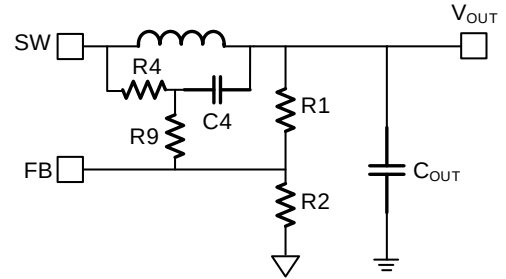

Figure 11: Simplified Circuit with External Ramp Compensation
V_{OUT} is influenced by the resistor divider ($R1 + R2$), as well as $R4$ (see Figure 11).
Add a noise-filtering resistor ($R9$) when designing the PCB layout (see Figure 11). $R9$ can be set to create a pole to reduce noise. $R9$ can be calculated with Equation (5):